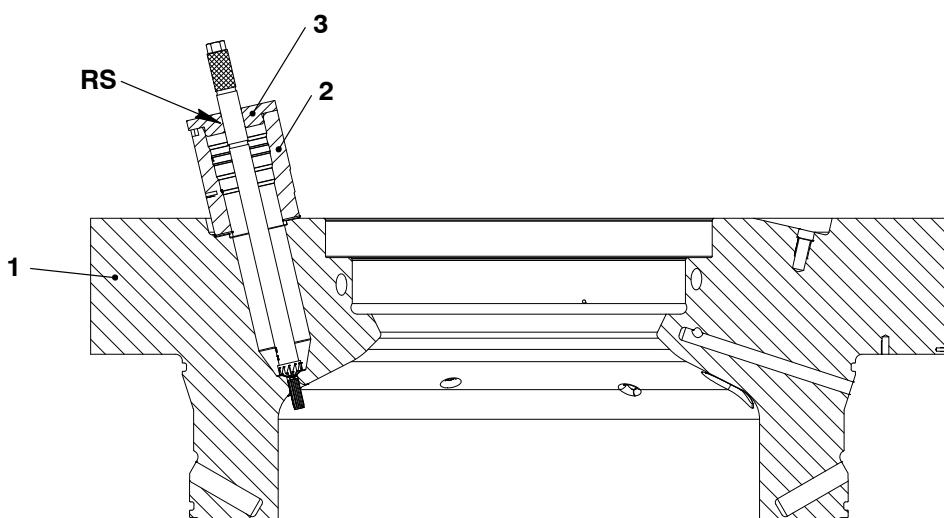

Fig. 2
- 5) Put the two bolts 94270C in the position as shown in Fig. 2.
- 6) Turn the two bolts until they stop at the thread end in the valve bush (5)